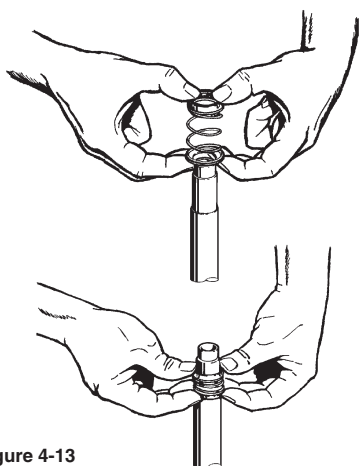

Figure 4-13
- b. Thread two (2) Guide Rods (#18) into the top holes of the motor face. (Use four (4) guide rods on stainless steel models).
- d. Install two (2) "O" Rings on each of the (top) two guide rods. This will help hold the bracket in place during the remainder of the assembly operation.
- d. Holding the element assembly between the thumb and index finger of both hands, slide the assembly over the sleeve until the spring holder rests against the shoulder of the sleeve. Refer to Figure 4-13.
- b. Holding the element assembly between the thumb and index finger of both hands, slide the assembly over the shaft until the spring holder rests against the shoulder. Refer to Figure 4-13.